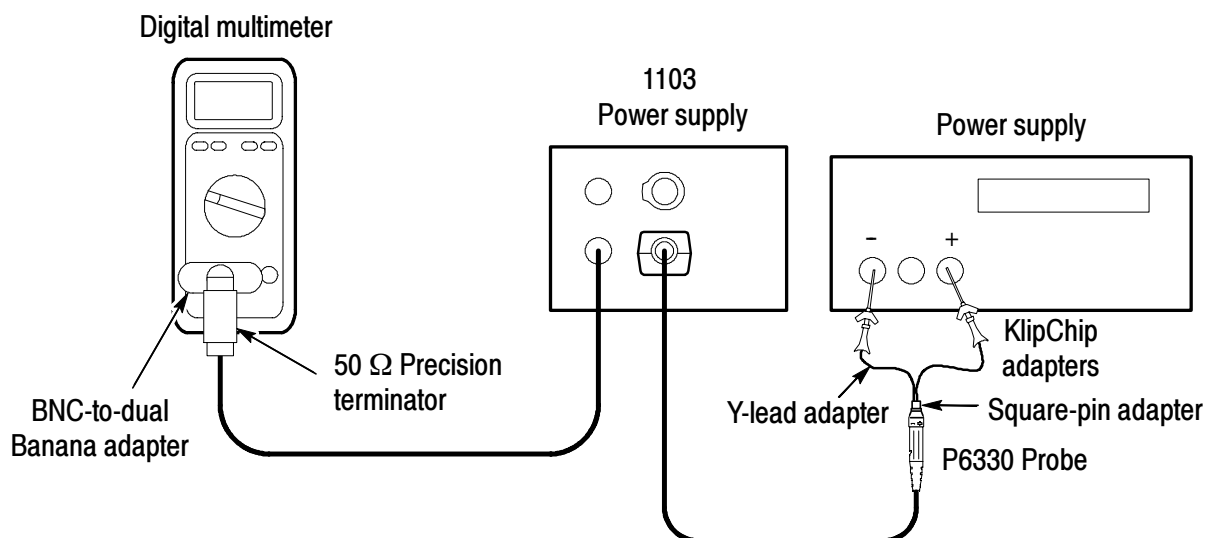

Figure 26: P6330 offset range setup
1. Connect the equipment as shown in Figure 26.